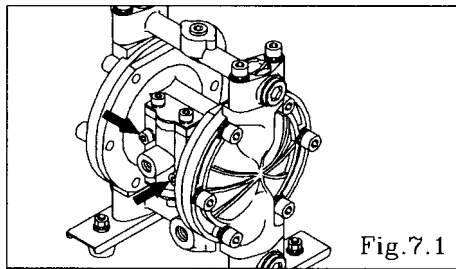

Fig.7.1
- Remove the 2 retainer bolts from the spool valve case, and remove the spool valve case. [Fig.7.1]